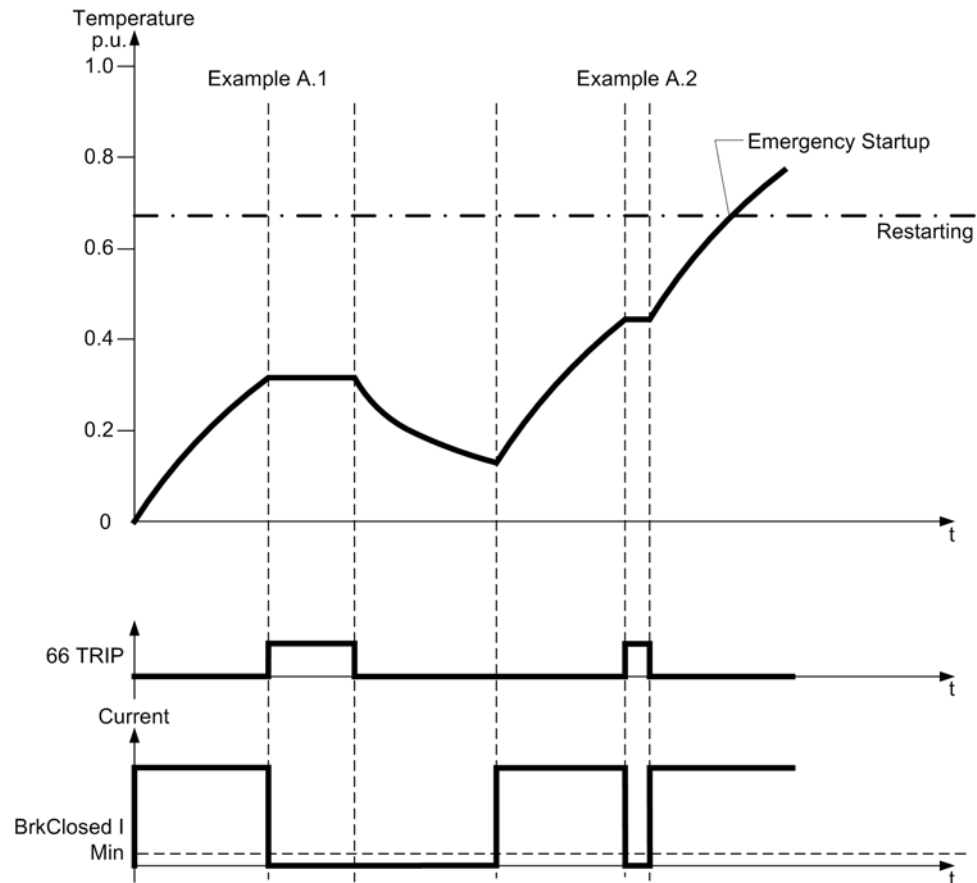

Figure 2-54 Startups according to examples A.1 and A.2
1. A normal startup brings the machine into a temperature range below the thermal restarting limit and the machine is stopped. The stop launches the equilibrium time 4304 **T Equal** and generates the message „66 TRIP“. The equilibrium time expires and the message „66 TRIP“ is cleared. During the time **T Equal** the thermal model remains "frozen" (see Figure 2-54, to the left).
2. A normal startup brings the machine into a temperature range below the thermal restarting limit, the machine is stopped and is started by an emergency startup without waiting for expiry of the equilibrium time. The equilibrium time is reset and the thermal profile is released and „66 TRIP“ is reported to be cleared (see Figure 2-54, to the right).